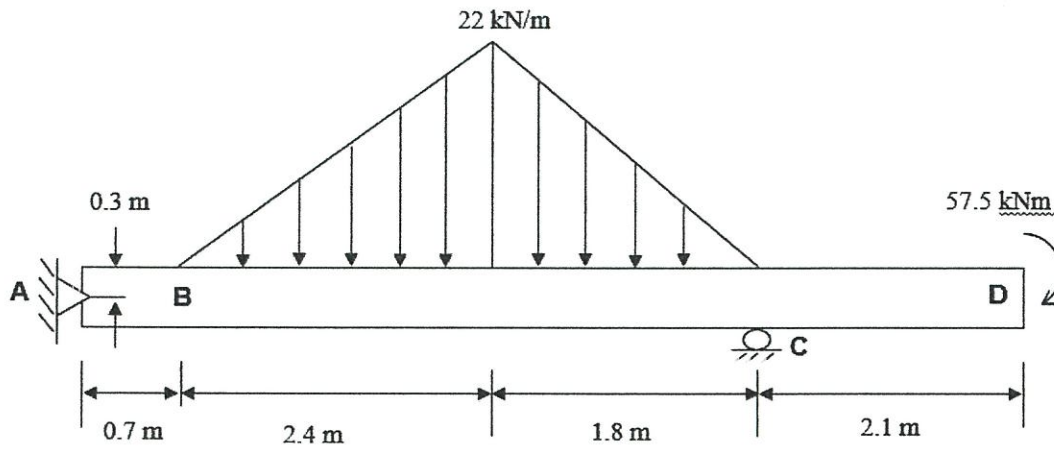

Figure Q1: Simply Supported Beam
- (b) A simply supported beam as shown in **Figure Q1** in **Appendix I** is supported with pin and roller at point A and C. The uniform distributed loads of 22 kN/m is loaded at points B to C and a moment of 57.5 kN/m at point D.